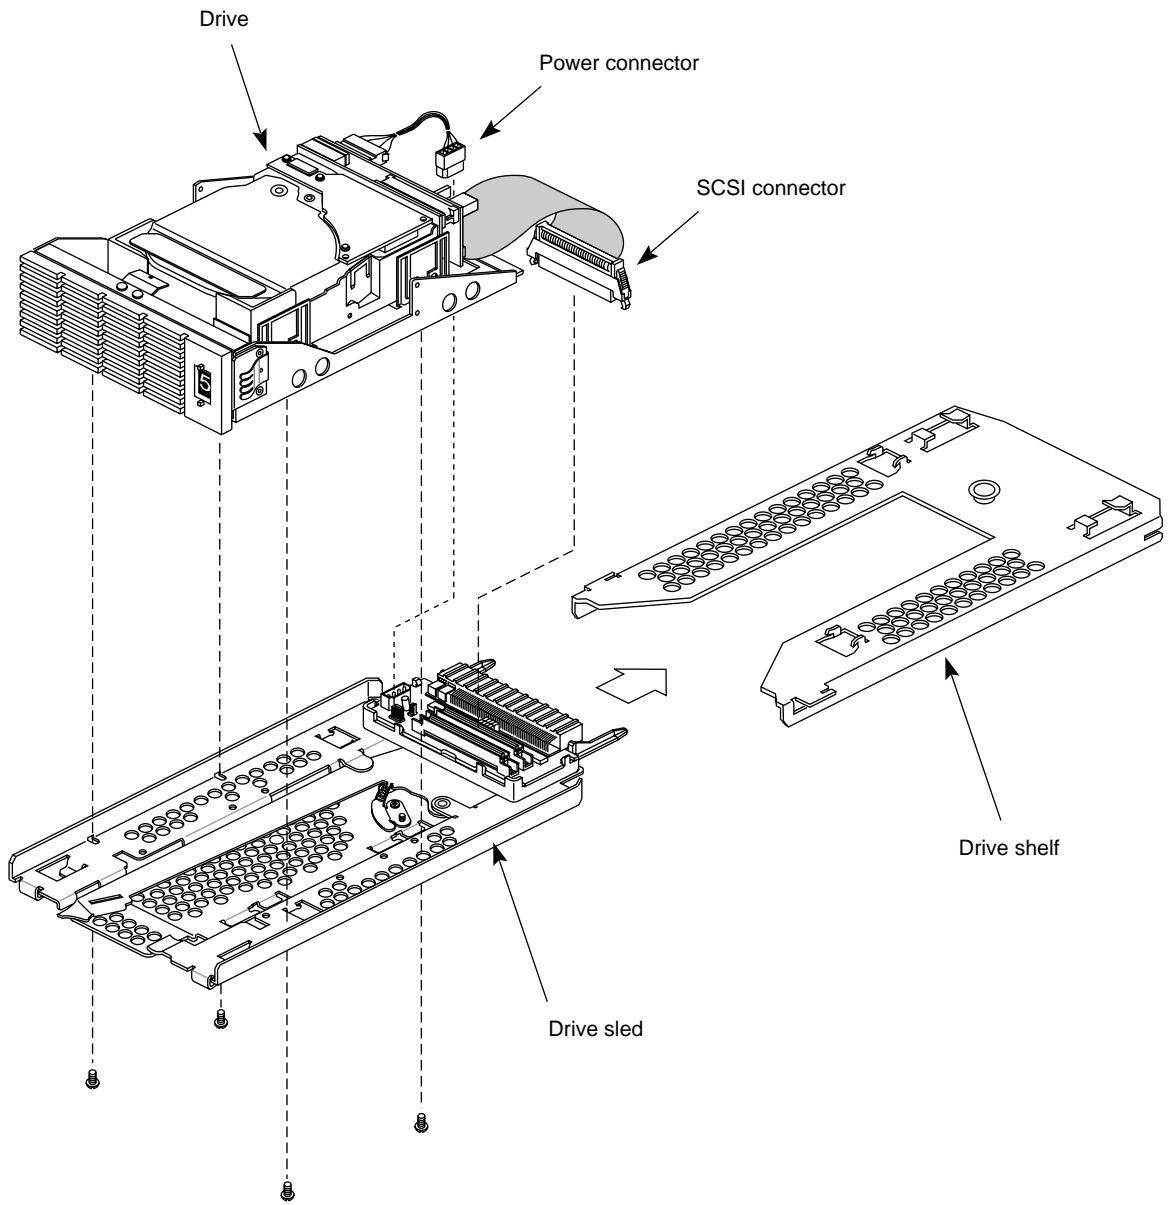

Figure 4-3 Installing a Half-Height SCSI Drive on a Sled and Loading It
The drive must be properly mounted on a drive sled and configured for a channel and operating protocol (single-ended or differential). See Figure 4-3.
1. If your drive did not come already mounted on a sled, place it on top, as shown in Figure 4-3.
Each drive must be properly mounted on a drive sled and configured for a particular channel and SCSI transmission protocol (single-ended or differential). See Figure 4-3 for the mounting position of the drive on a sled.